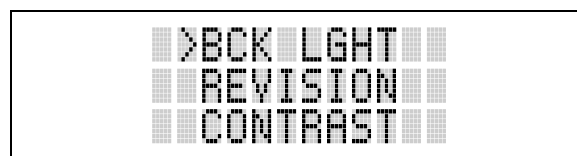

Figure 9-8: Menu Display
2. Upon entering the menu selection mode, Menu options will appear in the display (see Figure 9-8).